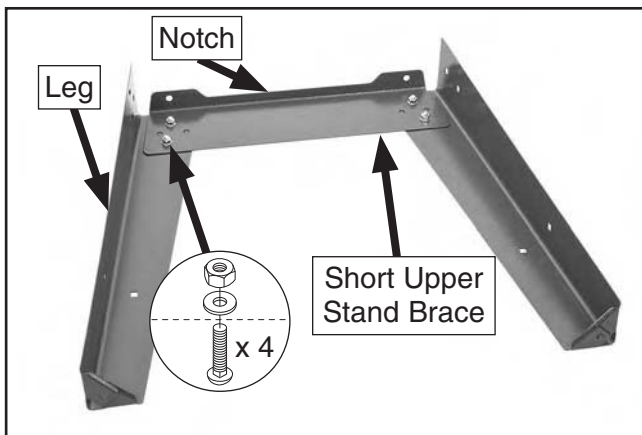

Figure 10. Short upper stand brace attached to legs.
1. Attach each short upper stand brace to two stand legs, as shown in **Figure 10**, using (4) M8-1.25 x 16 carriage bolts, (4) 8mm flat washers, and (4) M8-1.25 hex nuts.